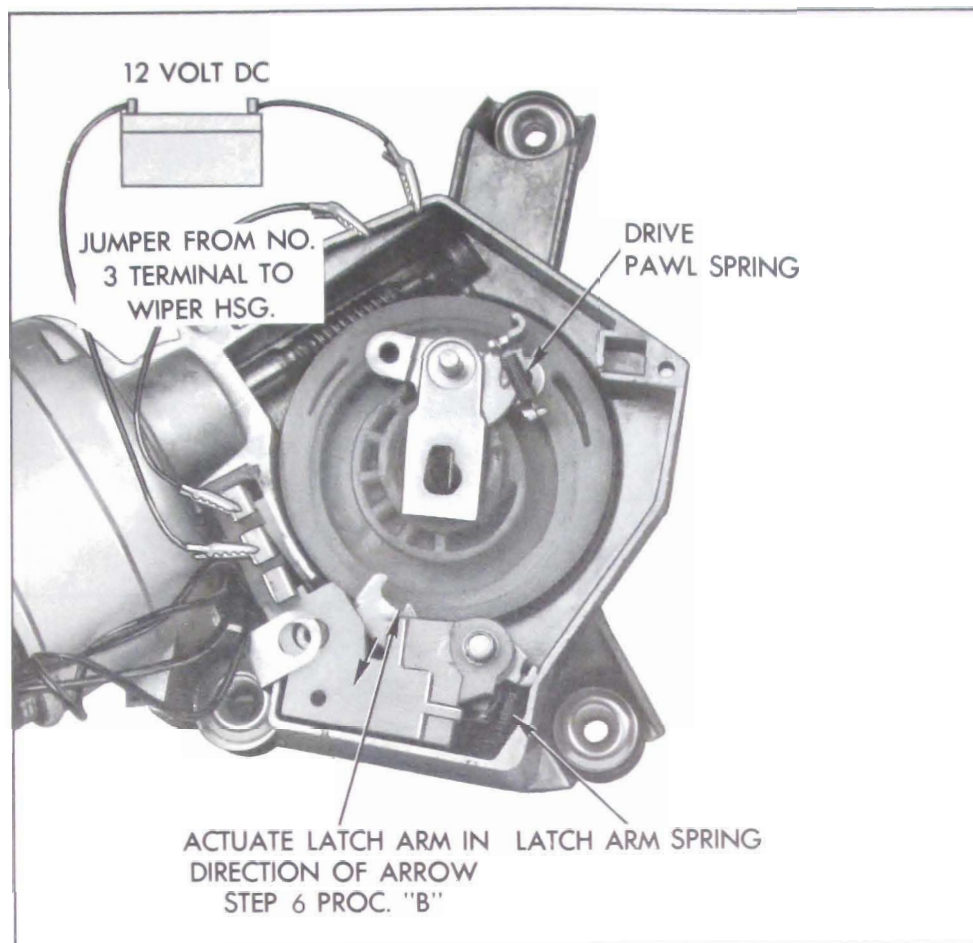

Figure 10-117—Checking Operation of Relay and Latch Arm
(a) Observe if relay latch arm spring is connected properly. See Figure 10-117.
(c) If items in a and b check out, connect power source to wiper and connect jumper wire from Terminal No. 3 to wiper housing, Figure 10-117. Do not make any connections from Terminal No. 1. Manually actuate latch arm in direction of arrow and observe if it remains in energized position (inside plastic switch housing out of path of gear drive pawl). If it remains in energized position, check for grounded red leads from coil to Terminal No. 1. If red lead is not grounded, coil is probably grounded internally and relay switch should be replaced.
(a) Check that drive pawl and relay latch arm springs are properly connected as shown in Figure 10-117.
(1) Remove small amount of insulation from black lead with pink stripe and connect test light between exposed wire and wiper housing.
(2) Connect power source and jumper to wiper as shown in Figure 10-117 and observe if test light goes out once for each revolution of gear or if light glows steady. If light glows steady, relay switch contacts are not opening and switch is defective. If light goes out each time drive pawl moves into relay switch slot relay switch is functioning correctly.
(a) Check for grounded condition in the internal black lead that connects to wiper terminal No. 3. Refer to Figure 10-117 for Terminal No. 3 location.